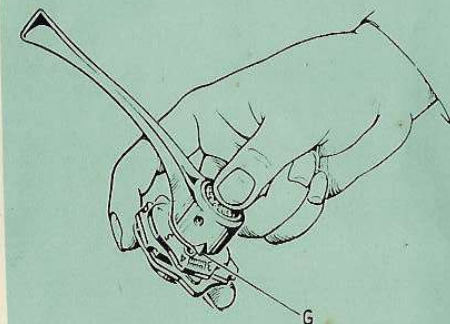

Fig. 66
- Press cam-group as shown on Fig. 66 and bring index « G » in correspondence with the desired buttonhole.